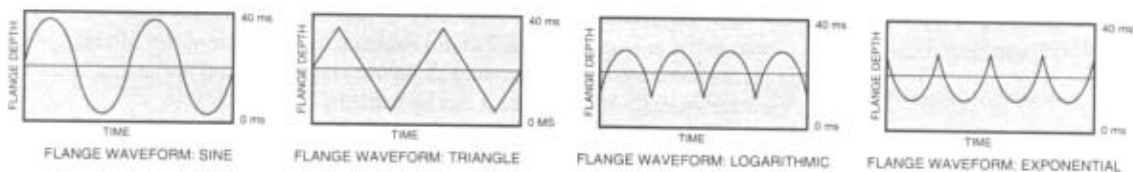

Fig. 4-9 Flanger LFO Shapes
- Flange Waveform** ..... Controls the LFO waveform pattern of the flange effect. SINE produces a smooth sine wave-type flange with even transitions in and out of the turnaround points. TRIANGLE is a linear flange effect, and ramps the pitch of the wave up and down with no slowing at turnaround points. Flangers usually sound best using LOGARITHMIC or EXPONENTIAL waveforms, but don't be afraid to experiment. See fig. 4-9.